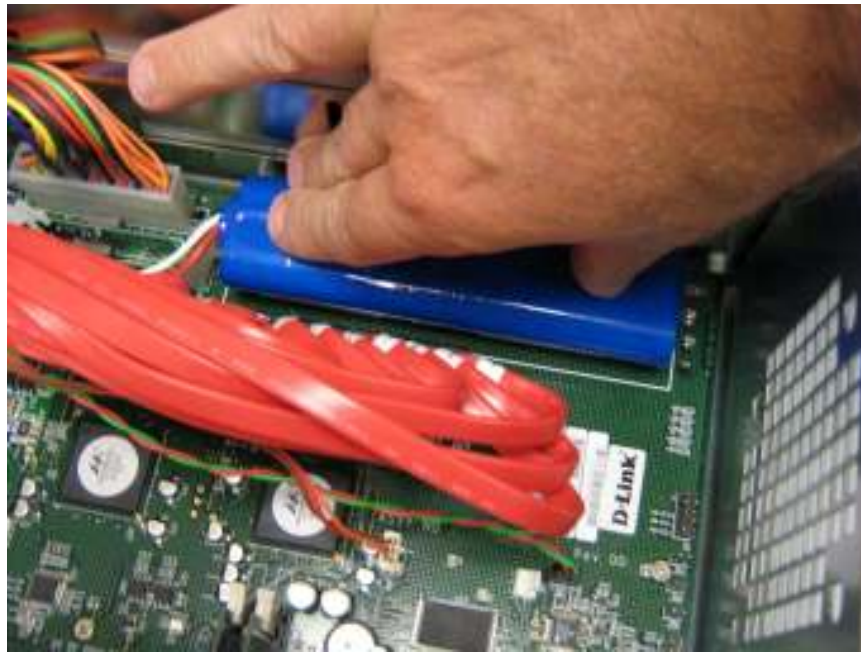

Figure D-2 Press the Battery Down Firmly Until it Locks
2. Press the battery down firmly as shown in Figure D-2 until you feel it lock into place.